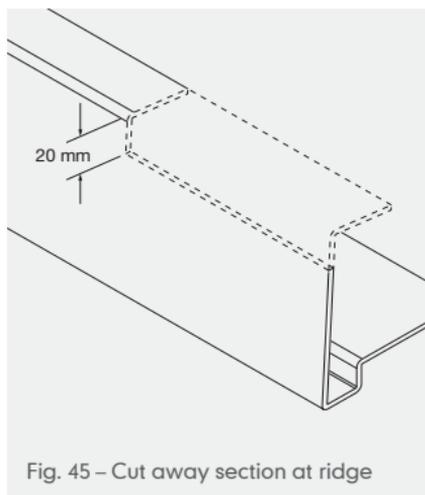

Fig. 45 – Cut away section at ridge
- 3 At the ridge apex, allow a 10mm expansion gap at the mitred joint between the verge extrusions. Cut away the top flange and 20mm depth of the side wall (Fig. 45) to accommodate the ridge tile (and dry ridge batten section, if appropriate).
- 4 The horizontal flange of the extrusion is pushed between the top of the wall (or gable ladder) and tiling battens along its whole length. Ensure the bottom end lines up with the leading edge of the eaves tiling course (Fig. 45).